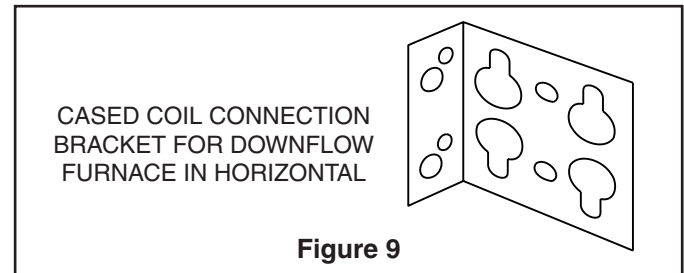

Figure 9
- There are three brackets included with the non-condensing downflow furnace which are used to connect the furnace and coil together. See Figure 9.